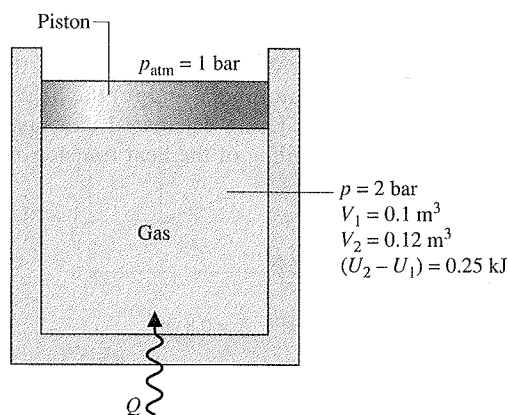

Fig. P2.59
2.59 As shown in Fig. P2.59, a gas contained within a piston-cylinder assembly, initially at a volume of 0.1 m³, undergoes a constant-pressure expansion at 2 bar to a final volume of 0.12 m³, while being slowly heated through the base. The change in internal energy of the gas is 0.25 kJ. The piston and cylinder walls are fabricated from heat-resistant material, and the piston moves smoothly in the cylinder. The local atmospheric pressure is 1 bar.